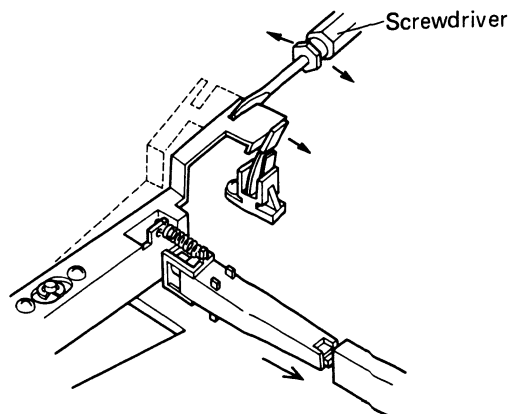

Fig. 9-9 Leaf Switch Timing Adjustment
1. Slowly press down on the REC lever so as to cause the REC/P.B switch to operate, and then adjust the tip of Fig. 9-9 using a screwdriver until the leaf switch operates.